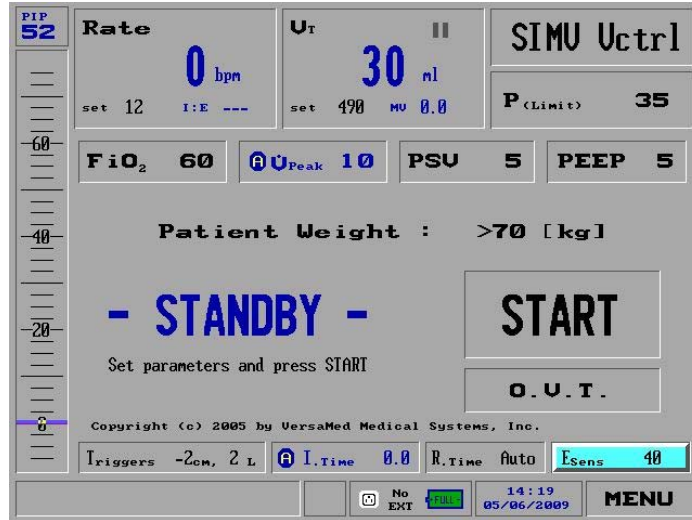

Figure 71: Esens Selected on the Main Screen
1. Select the **Esens** option in the lower portion of the **Main** screen (Figure 71):